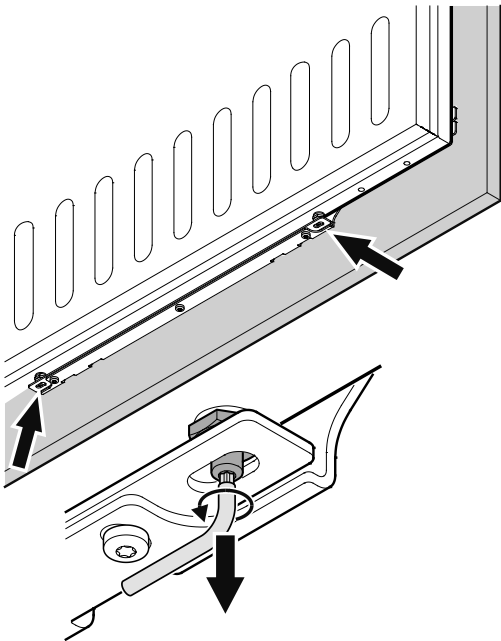

Figure 39
8. Turn the adjusting bolts (bottom refrigerator door) until they make contact with the attachment bracket (**Figure 39**).